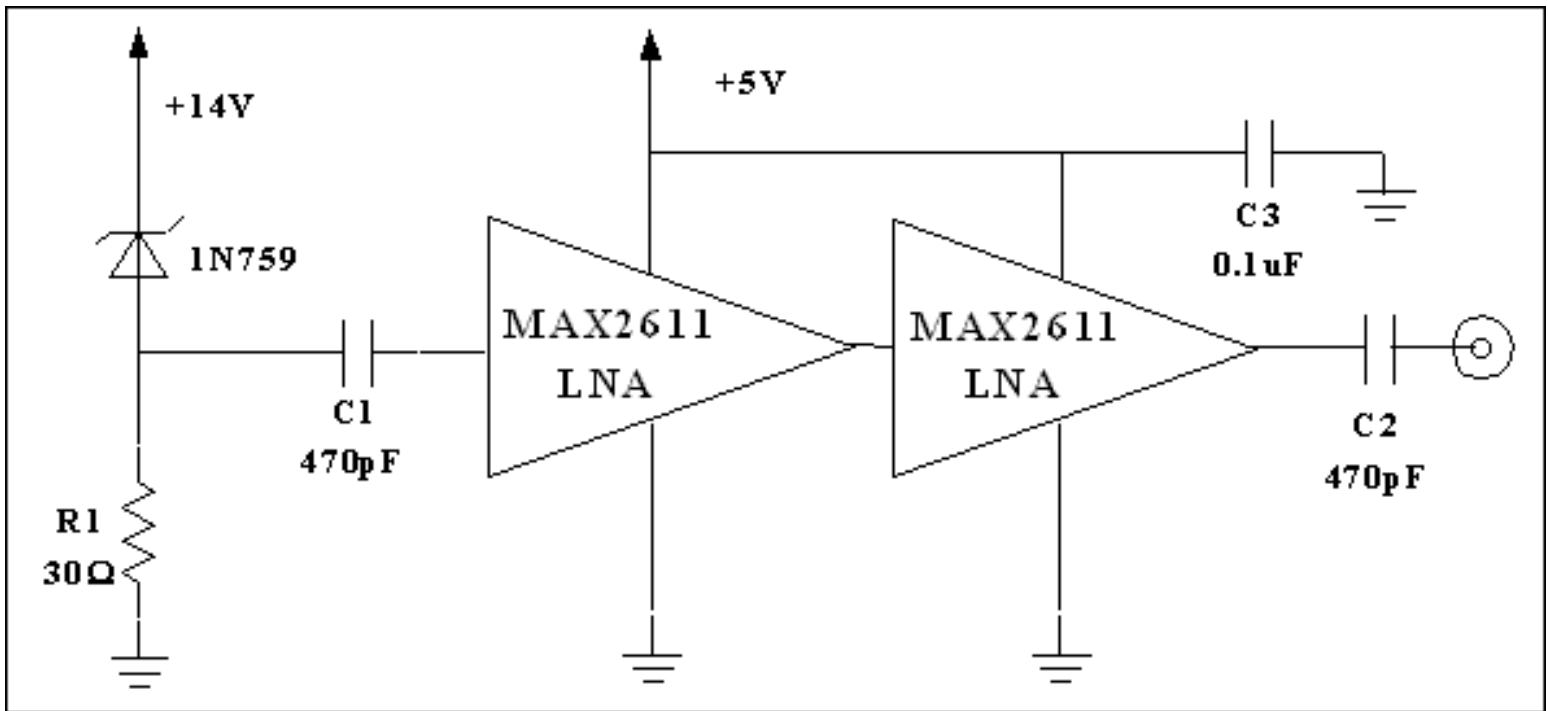
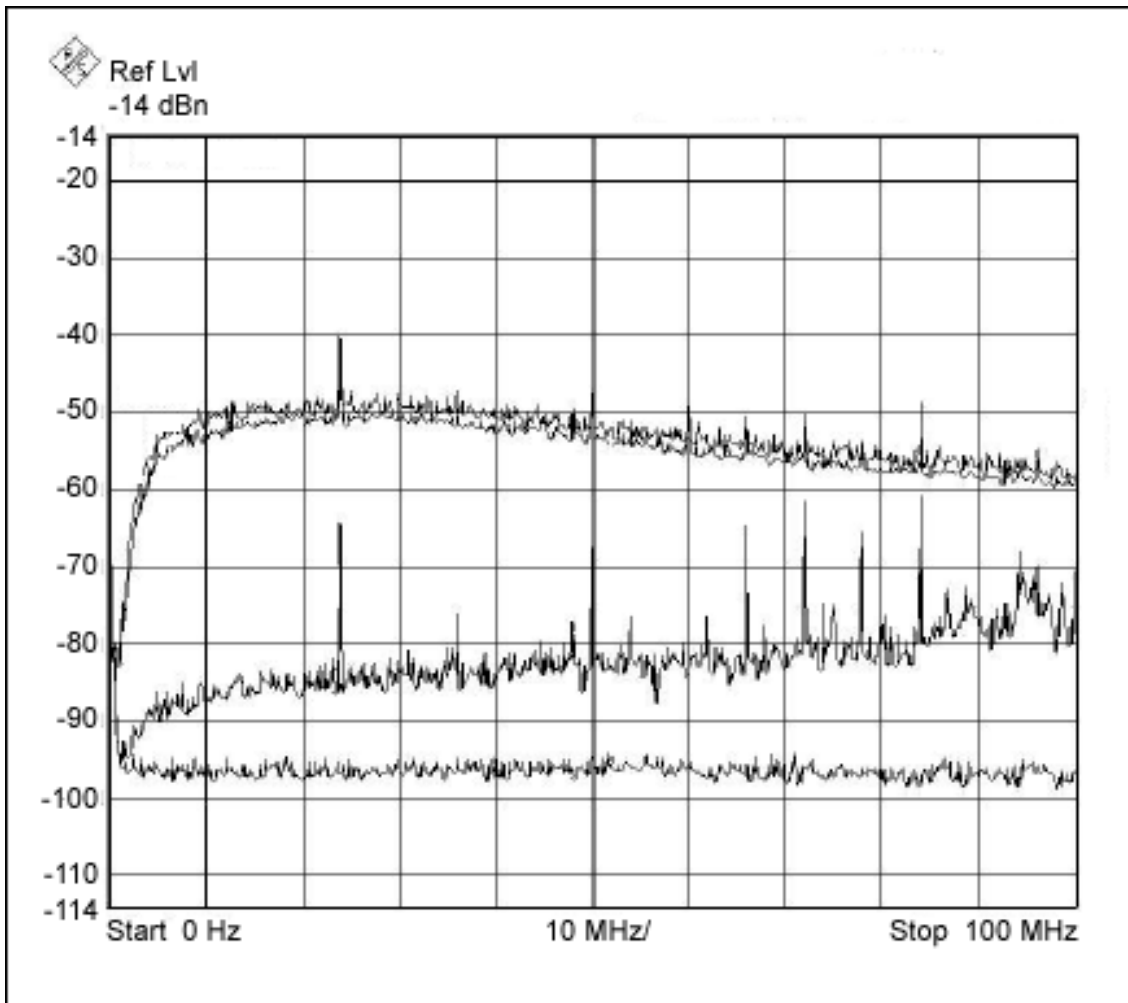

Figure 1. White-noise generator circuit.
Figure 2. White-noise generator output spectrum.
4. The frequency/power spectrum of the output noise is not perfectly flat over a wide frequency range. As shown in test result **Figure 2**, from 1MHz to 100MHz, noise power drops almost 10dB. This could be because of higher on-board attenuation for higher frequency components.
The circuit is shown in **Figure 1**, and the test result is shown in Figure 2. In Figure 2, the bottom curve is the instrument noise floor (measured when everything is OFF). The second curve from bottom is the noise output from the LNA when the diode is OFF. The top 2 curves are noise output spectrum at 10mA and 60mA diode current respectively.